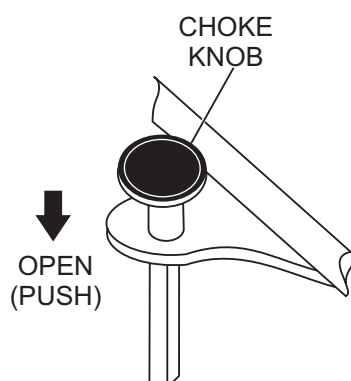

Figure 17. Choke Knob (Open Position)
7. Once the engine has been started and warmed, return the choke knob (Figure 17) to the **OPEN** position.